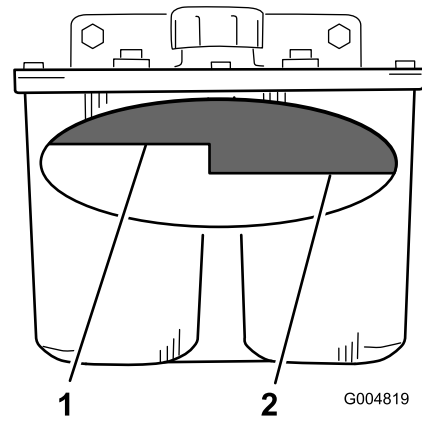

Figure 79
2. Clean the area around filler neck of hydraulic tank (Figure 79).
3. Remove the cap from the filler neck. Look inside to check if there is fluid in the reservoir (Figure 79).
Note: The fluid level should be to the top of the hot level of the baffle, when the fluid is hot (Figure 79).